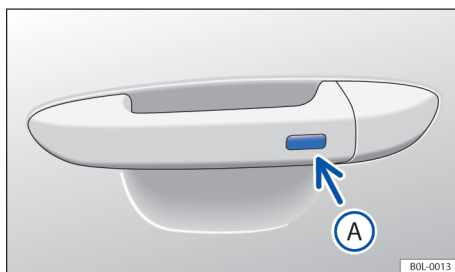

Fig. 43 Door handle: Keyless Access function button
- Press function button → Fig. 43 (A) on the driver's side door handle.
- In addition, press the function button → Fig. 43 (A) on the driver's side door handle within five seconds.